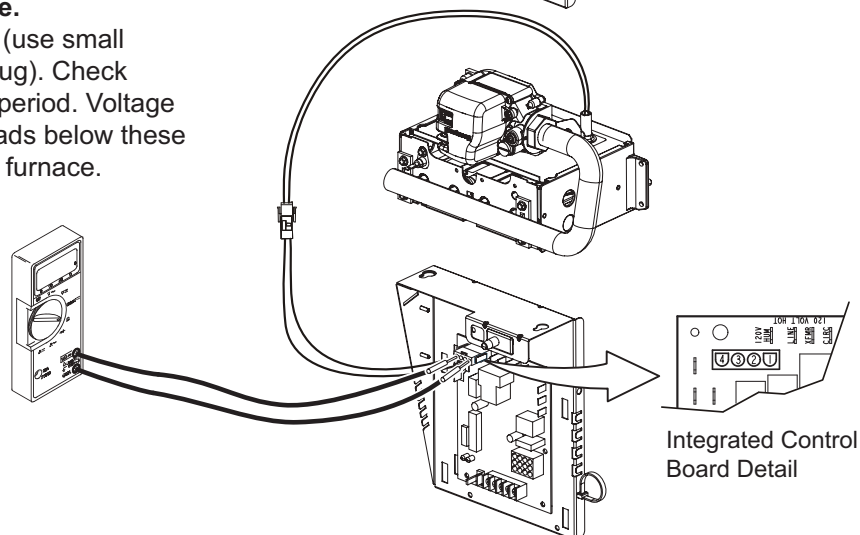

Figure 10. IGNITOR CHECKS
The nitride ignitor is made from a proprietary ceramic material. To check ignitor, measure its resistance and voltage. A value of 39 to 70 ohms indicates a good ignitor. Voltage to the ignitor should be 120VAC. See FIGURE 10 for resistance, and voltage check.
- 3 - Mount new motor control module to motor using two hex head bolts removed in **Figure 10**. Torque bolts to 22 inch pounds or 1/16th clock wise turn.